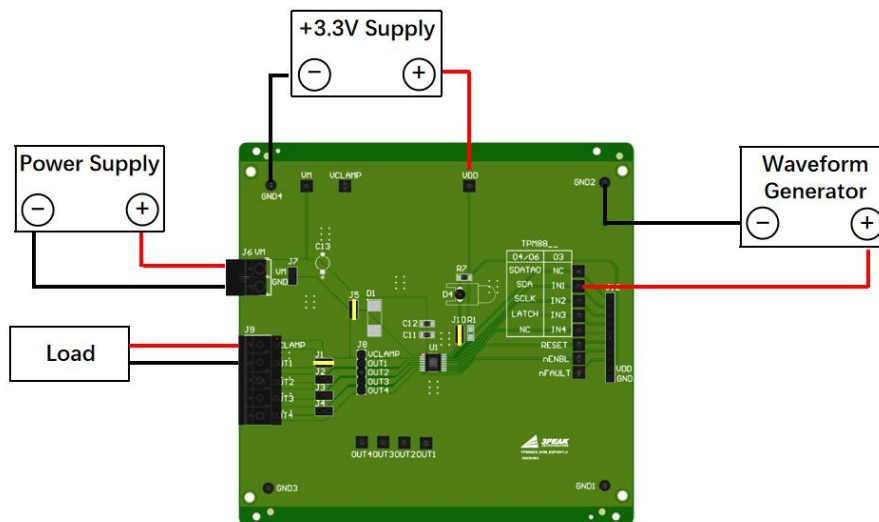

Fig. 3 EVM Test Setup
Referring to Table.3, the recommended connections to evaluate TPM8803-EVM is shown in Fig.3.
- Set up the EVM as described in Fig.3.